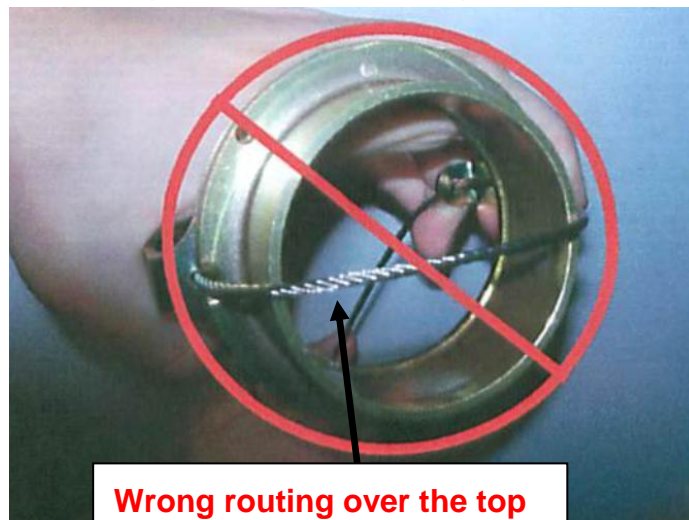

Fig. 4 **WRONG** cable routing
3. The steel cable is routed on the outside of the pickup collar shaft. By no means it may be routed over the top of the extractor. For comparison: See Fig 4 for incorrect routing.